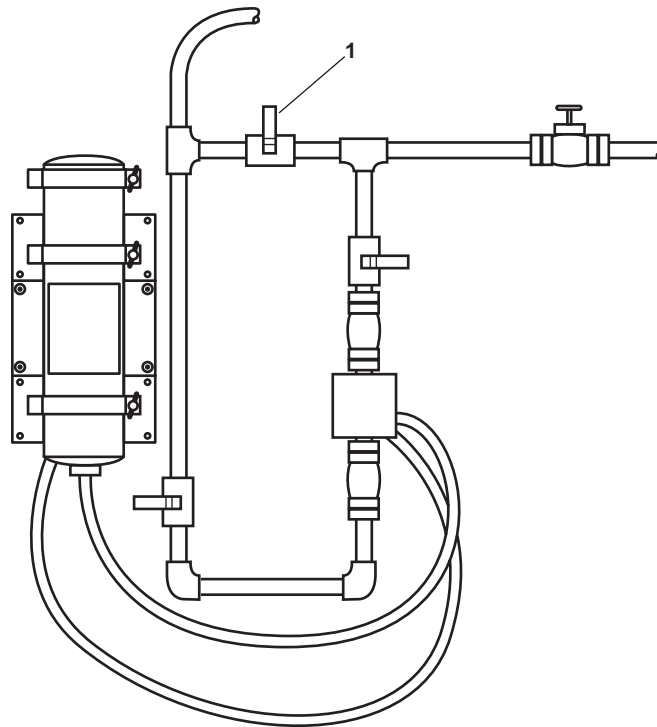

Figure 8. Brominator
8. Verify that the brominator is online and operating normally (TM 55-1925-273-10), or that PW-36 BYPASS-BROMINATOR (figure 8, item 1) is OPEN.